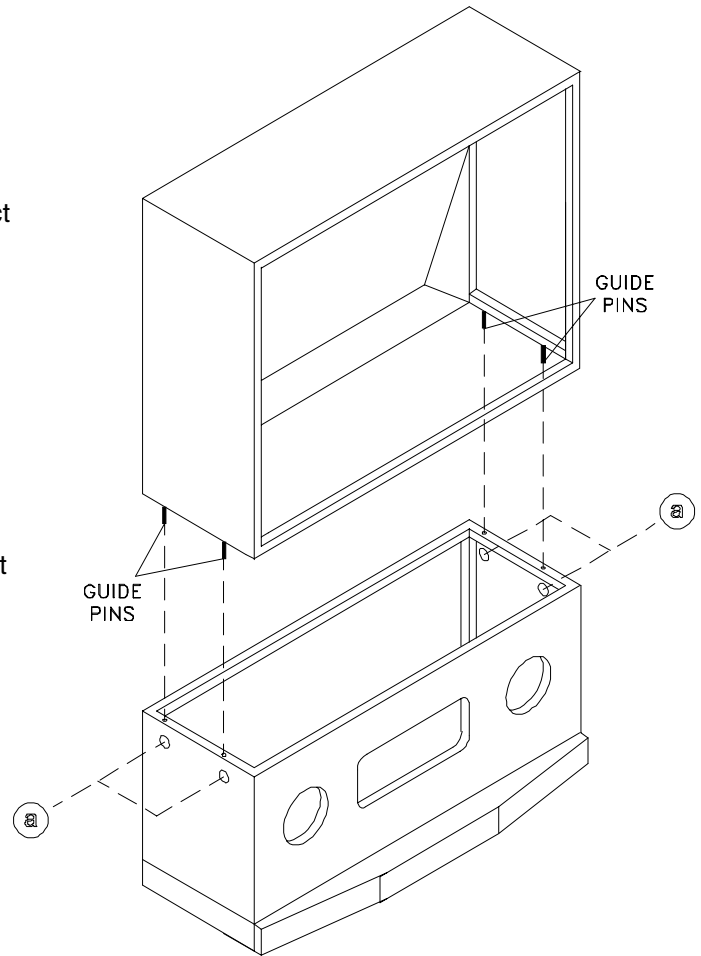

Figure 1-3
2. Remove 4 screws "a" securing the top and bottom cabinet sections (Figure 1-3).